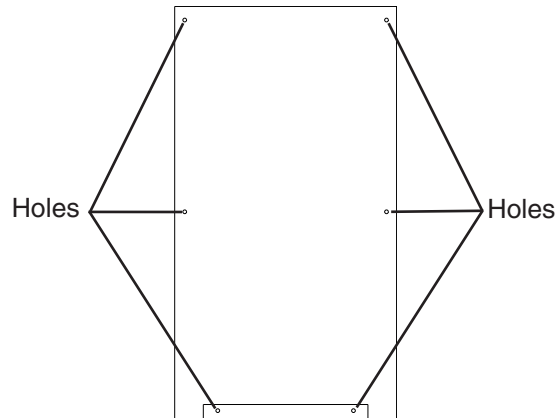

Fig. 2
- 2) Drill six 1/4" diameter (hardwood may require slightly larger diameter) holes 3/8" (10 mm) deep in the locations designated. **NOTICE! Use care when drilling holes for mounting hardware. All drilled holes must be straight and drilled to the correct diameter and depth.** See "(A) Threaded Inserts" and "(B) Threaded Inserts" in the specification diagram and Fig. 2.